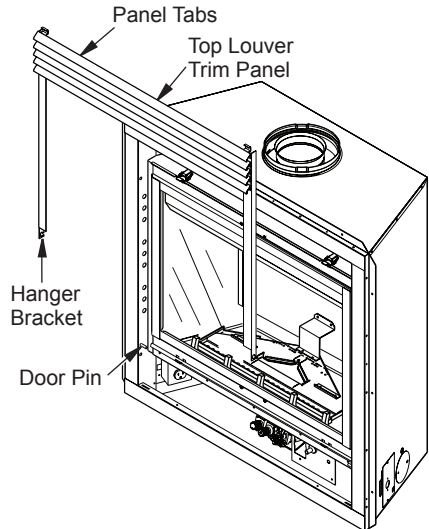

Figure 44 - Removing Top Louver Trim Panel
1. Grasp the two hanger brackets at the bottom and pull up until the hanger brackets release from the door pins (see Figure 44).
2. Remove the top louver trim panel (see *Removing Top Louver Trim Panel* and Figure 44).